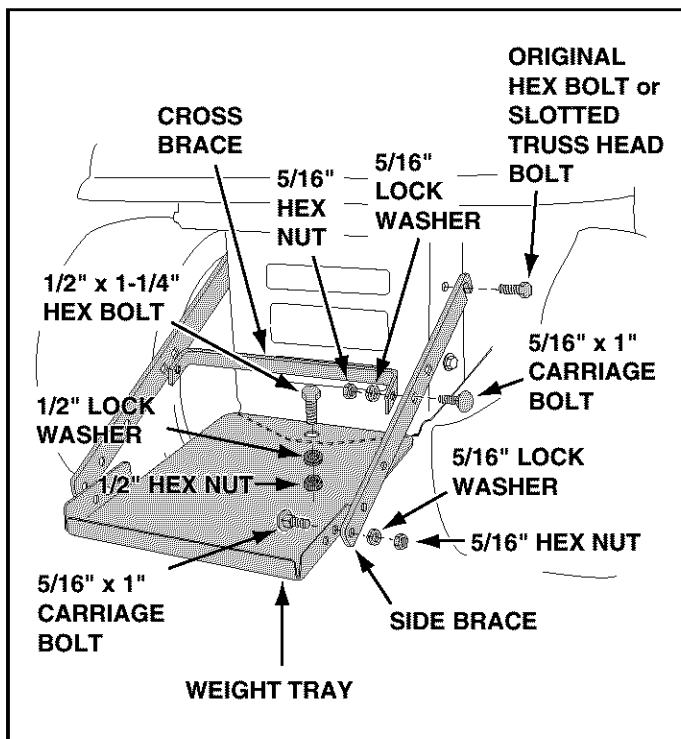

FIGURE 25
- Loosen the top hex bolt on each side of the tractor frame at the rear. Assemble the slotted end of the side braces down onto the loosened bolts. **Do not tighten yet.** See figure 25.
- Place the weight tray on top of the tractor hitch and fasten the side braces to it using two 5/16" x 1" carriage bolts, 5/16" lock washers and 5/16" hex nuts. **Do not tighten yet.** See figure 25.
- Fasten the weight tray to the tractor hitch using a 1/2" x 1-1/4" hex bolt, a 1/2" lock washer and a 1/2" hex nut. **Do not tighten yet.** See figure 25.
- Fasten the cross brace to the side braces using two 5/16" x 1" carriage bolts, 5/16" lock washers and 5/16" hex nuts. See figure 25. **Tighten all loose bolts at this time.**
- Assemble the weight tray to the side braces as instructed in figure 25 on this page.